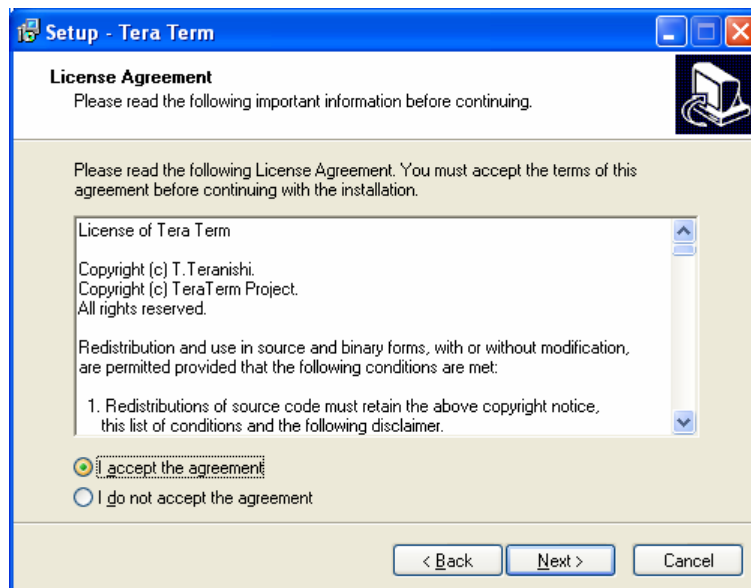

Figure 6-14: Tera Term License Agreement Screen
8. Click the **I accept the agreement** radio button, then click **N**ext (Figure 6-14).